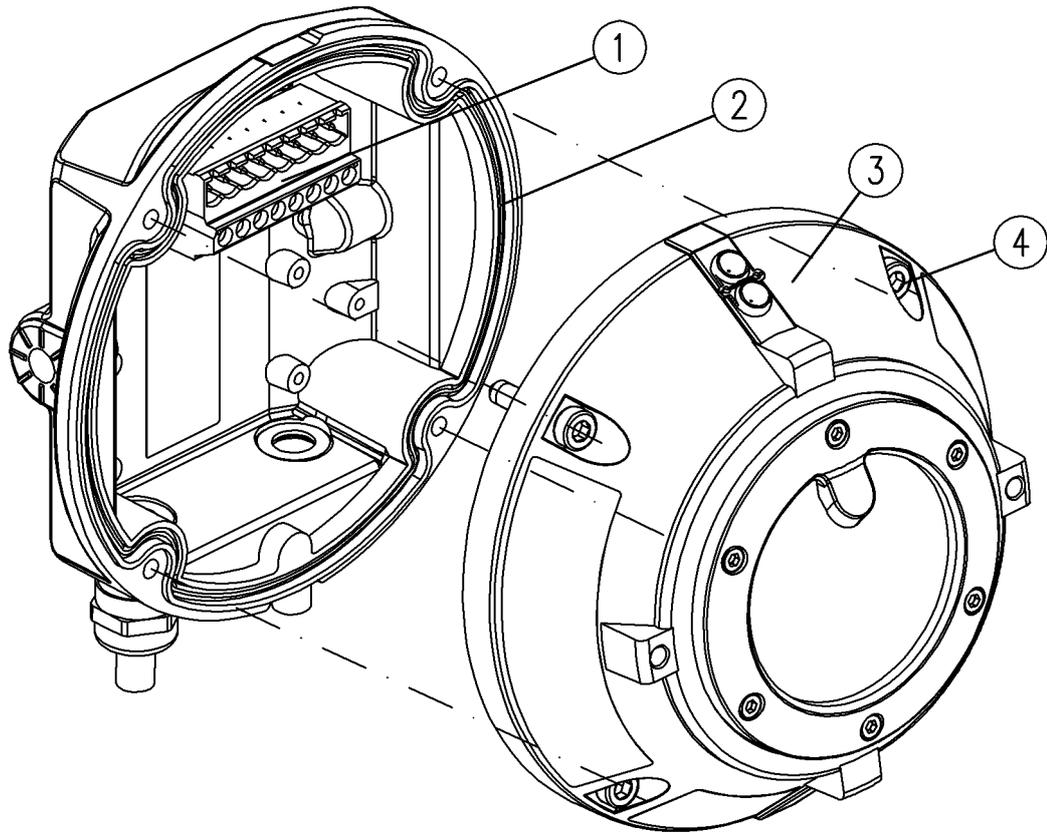

Fig. 26: Screw the detector onto the detector base
7. ➤ Place the detector (Fig. 26/3) onto the detector base (Fig. 26/2). The terminal strip of the detector must be inserted into the terminal block (Fig. 26/1).
8. ➤ Screw the detector and detector base together with the screws (Fig. 26/4) supplied. Tighten the screws crosswise using a hexagon socket wrench (size 4 mm (0.16 in), 3.5 Nm (2.58 ft lb)) to ensure seal tightness.
6. ▶ Place the detector (Fig. 26/3) onto the detector base (Fig. 26/2). The connection port of the detector must be inserted into the terminal block (Fig. 26/1). The cable entries on the detector base should face down.
7. ➤ Screw the detector and detector base together with the screws (Fig. 26/4) supplied. Tighten the screws crosswise using an Allen key (SW 4 mm, 3,5 Nm (2,58 ft lb)) in order to ensure seal-tightness.